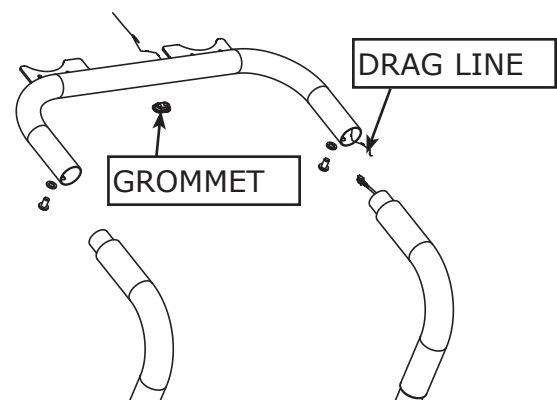

Figure 3: Top Rail Grommet Assembly
3. Use the drag line to pull Console Wire Harness thru the top rail as shown in Figure 3. Place the grommet over the Console Wire Harness and install the grommet in the top rail.